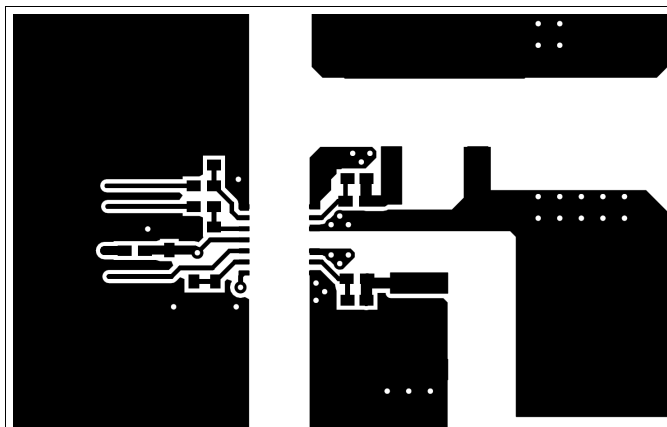
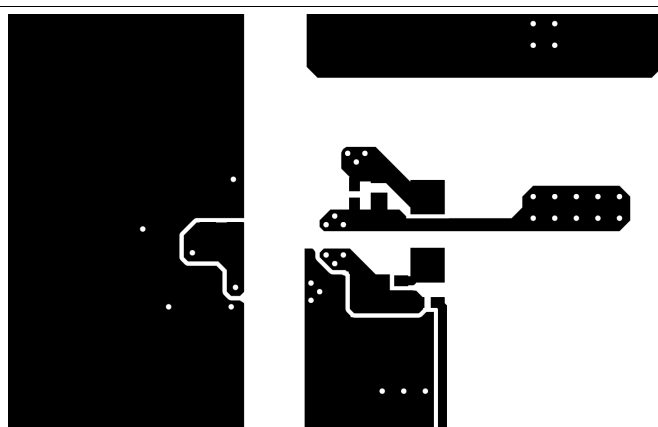

Figure 42. Top Layer Traces and Copper
Figure 43. Bottom Layer Traces and Copper
- Increasing the PCB copper connecting to VDDA, VDDB, VSSA and VSSB pins is recommended, with priority on maximizing the connection to VSSA and VSSB (see Figure 42 and Figure 43). However, high voltage PCB considerations mentioned above must be maintained.